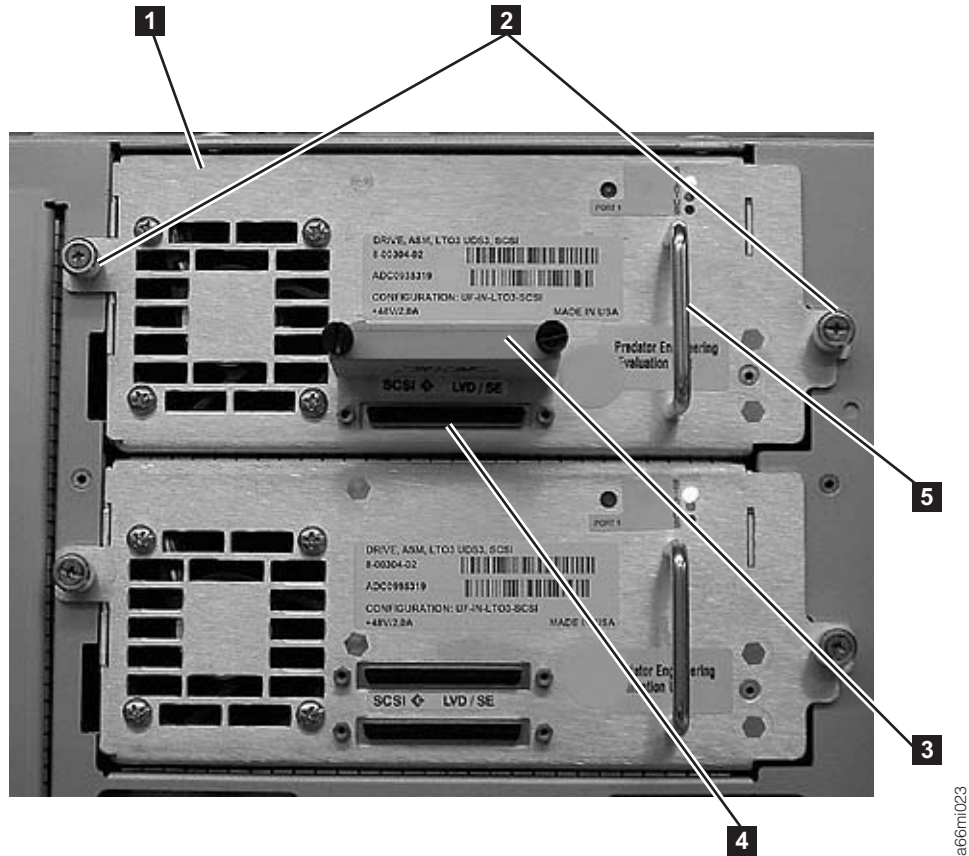

Figure 4-5. SCSI Drive Sled (detail)
1. Loosen the two thumb screws (**2** in Figure 4-5) that hold the drive sled in place by turning them counterclockwise.
2. To remove the drive sled, grasp the handle (**5** in Figure 4-5) and slowly pull it toward you, while supporting the drive sled from underneath.